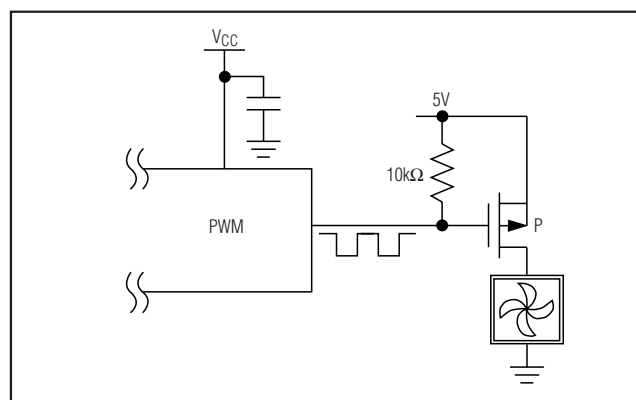

Figure 4. Driving a p-Channel MOSFET for Top-Side PWM Fan Drive
- 1) PWM_ drives the gate of a MOSFET or the base of a bipolar transistor in series with the fan's power supply. The *Typical Application Circuit* shows the PWM_ driving an n-channel MOSFET. In this case, the PWM invert bit (D4 in register 02h) is set to 1. Figure 4 shows PWM_ driving a p-channel MOSFET and the PWM invert bit must be set to zero.